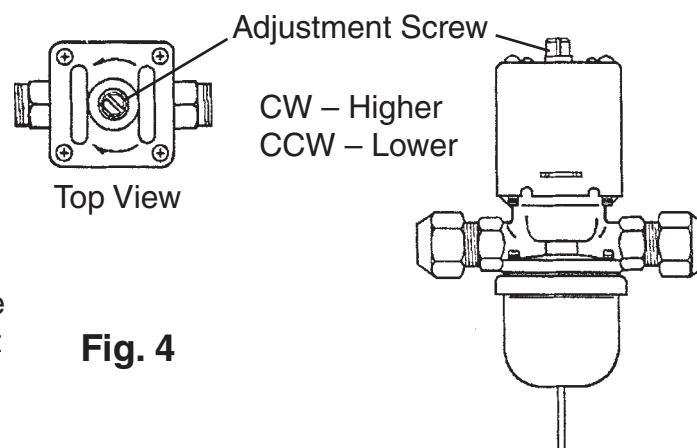

Fig. 4
- 2) Five minutes after a freeze cycle starts, confirm that the thermometer reads 104°F to 115°F (40°C to 46°C). If it does not, rotate the adjustment screw by using a flat blade screwdriver until the temperature is in the proper range. See Fig. 4. Next, check that the reference pressure is in the range indicated in the Head Pressure table in the Performance Data section. If it is not in the proper range, verify the refrigerant charge.